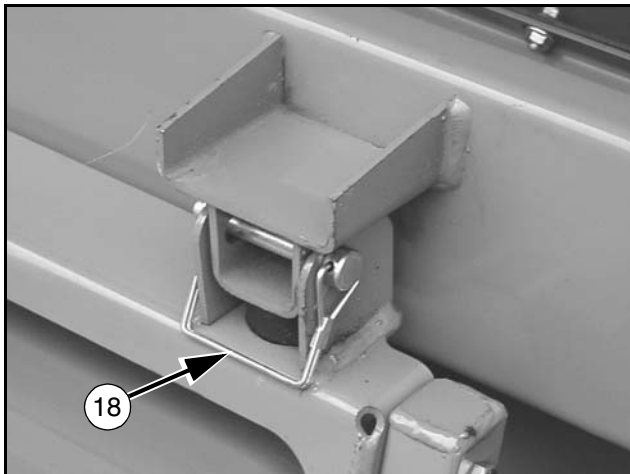

**Figure 13.** Cable Installed (Right Side Shown)
1. Attach cable (10) to rear of power unit on both right and left sides as shown in Figure 13.
2. Secure with flanged cap screw (8), washer (9), and flange lock nut (7). Leave hardware loose at this time.
4. Install whiz bolt (16), other end of cable (10), flat washer (9), and whiz nut previously removed in this hole position as shown in Figure 13.